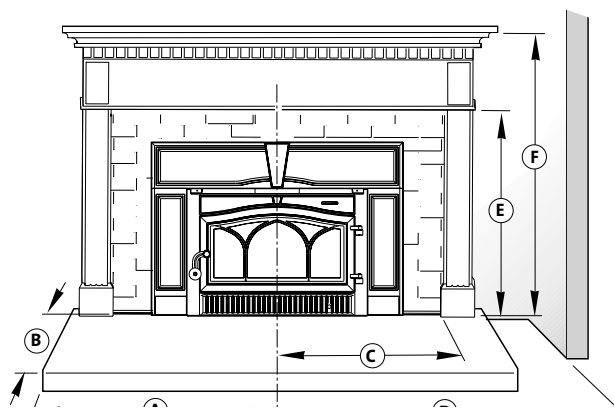

Figure 6. Minimum clearance to combustible materials.
U.S. & Canada: Side Protection: - Protection must extend a minimum 18 1/2 in. to both sides of the center line of the insert. See fig 6, A.